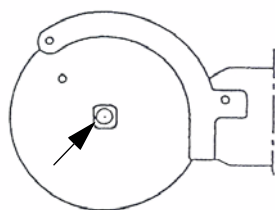

Figure 4: Fitting the saw blade
4. Replace the saw blade. Place the new saw blade onto the square drive (see Fig. 4).